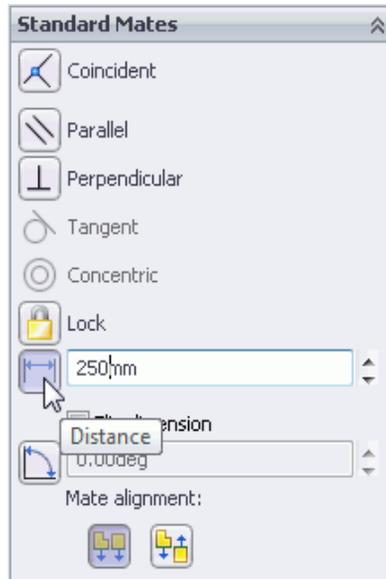

Figure 62 Designating a distance of 250mm between the front planes of the target and assembly
- 4 Click the distance icon  under **Standard Mates**, type 250 for the distance, and click the pointer. See Figure 62.